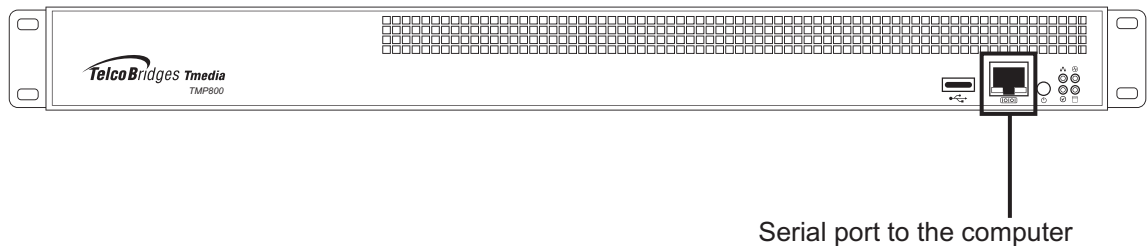

Figure 3.3 Tmedia Management Interface
1. Connect a CAT5 RJ-45 (male-male) cable (supplied with unit) between the com port of your computer and the serial port (labelled 10101) of the TMP800 Telecom Unit as shown in figure 3.3 on page 43. See Section A.2 on page 51 for a RJ-45 console wiring diagram.